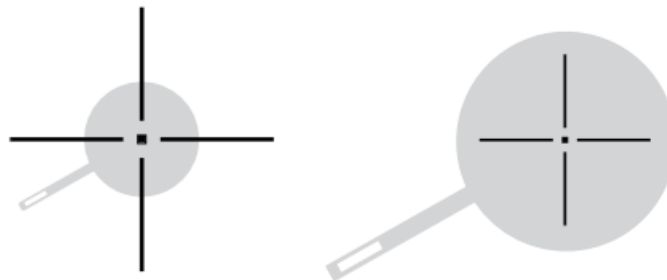

Figure 15: Cookware too small, Cookware too large
- The inner ring on each cooking zone indicates the smallest pan size for the zone (Figure 15). If the cookware is too small, the display will flash and the pan will not heat. Select a larger pan or use a different cooking zone.
- The outer ring on the cooktop graphic indicates the largest pan size for that zone (Figure 15). Do not use pans with bottoms that extend beyond the outer circle of a cooking zone, as doing so may cause food to heat unevenly.